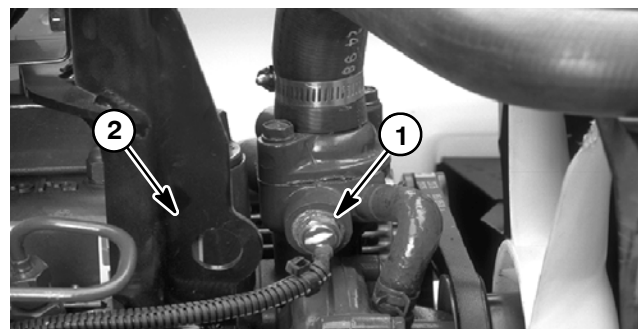

Figure 10
C. High temperature warning switch (Fig. 10).
13. Attach a suitable lift or hoist to lift tabs on front (Fig. 10) and rear (on air filter mount) of engine.
- D. High temperature warning switch (Fig. 10).